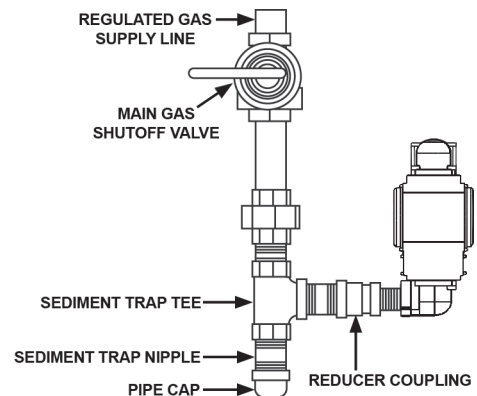
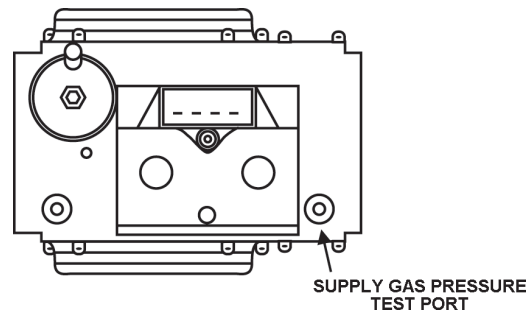

FIGURE 21.
FIGURE 22. – TOP VIEW
To trap any dirt or foreign material in the gas supply line, a sediment trap must be incorporated in the piping (see Figure 21). The sediment trap must be readily accessible and not subject to freezing conditions. Install in accordance with recommendations of serving gas suppliers. Refer to the latest version of the National Fuel Gas Code.
- For test pressures exceeding 1/2 psi (3.45 kPa) disconnect the water heater and its Main Gas Shutoff Valve from the gas supply piping system during testing, see Figure 21. The gas supply line must be capped when disconnected from the water heater.
1. Close the Main Gas Shutoff Valve, see Figure 21 on page 23.
3. Close the Main Gas Shut Off Valve, see Figure 21 on page 23.
4. Wait five (5) minutes for any residual gas to clear.
5. Open the Supply Gas Pressure Port on the gas valve by turning the center screw counter-clockwise. Connect the manometer to the supply gas pressure test port, see Figure 22 on page 25.